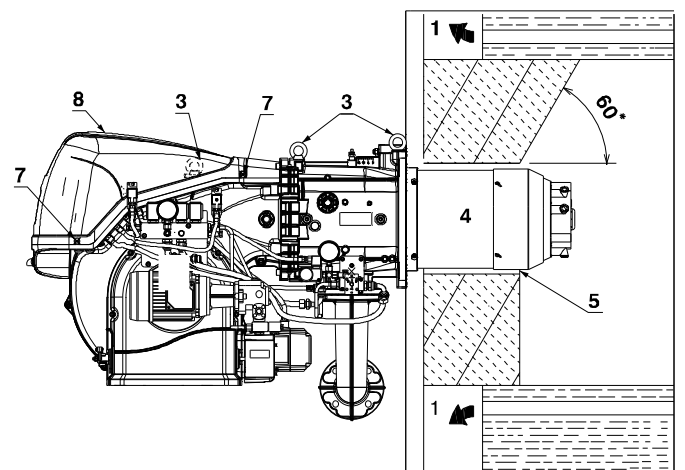

Fig. 14
For boilers with front flue passes 1)(Fig. 14) or flame inversion chamber, a protection in refractory material 5) must be inserted between the boiler fettling 2) and the blast tube 4).
Prepare a suitable lifting system using the rings 3)(Fig. 14), after removing the fixing screws 7) of the casing 8).
- Fit the heat insulation supplied onto the blast tube 4)(Fig. 14).